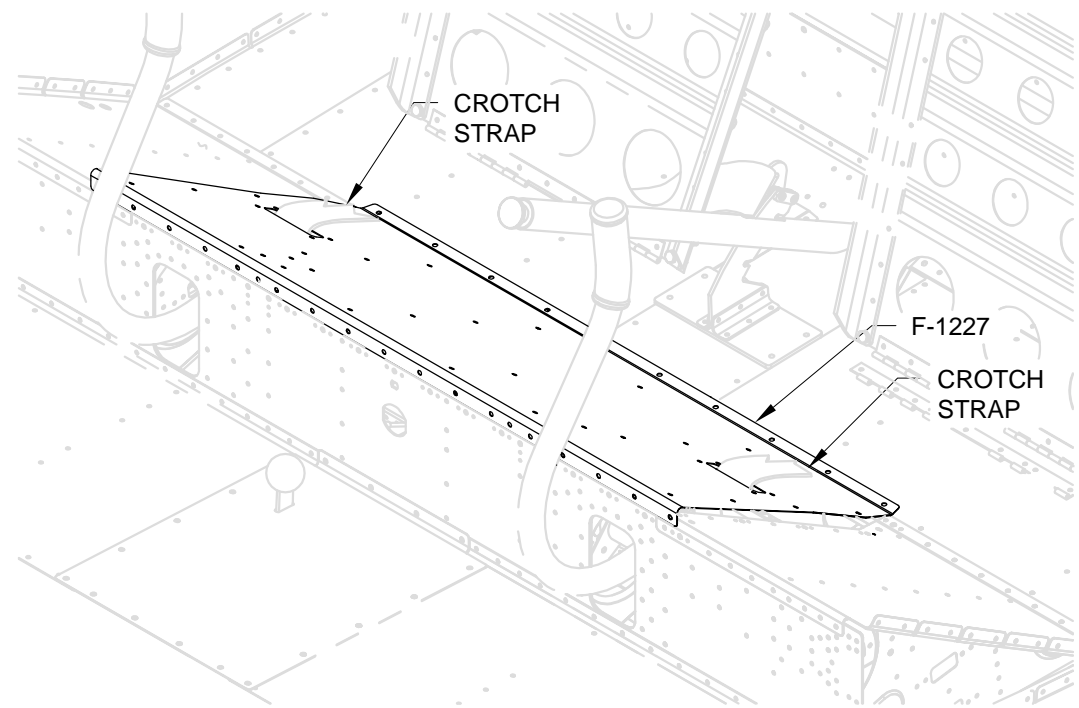

FIGURE 2: REMOVING THE SEAT RAMP COVER
Step 2: Remove the F-1227 Seat Ramp Cover. See Figure 2.